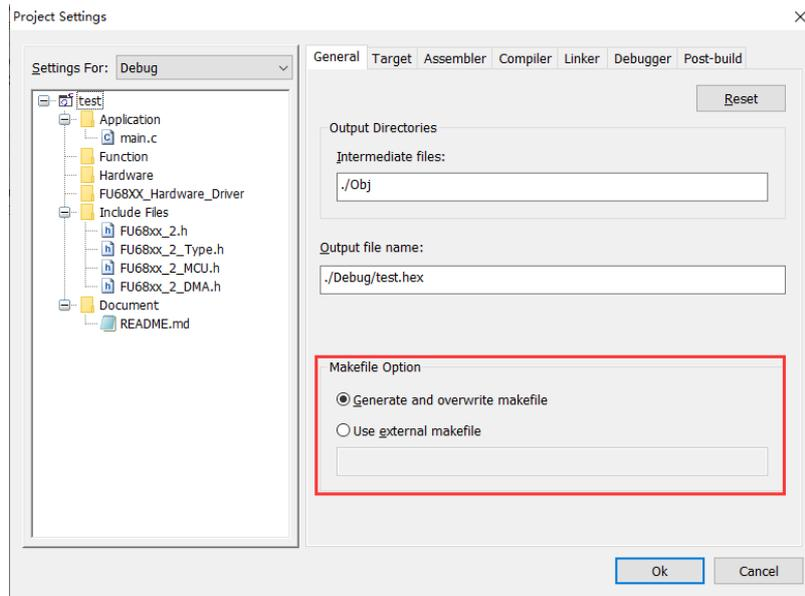

Figure 1-36
1. General: contains the directory and name of the output file and the selection of the makefile file. Among them, “Generate and overwrite makefile” automatically generates the makefile for the selected software; “Use external makefile” selects the makefile set by the programmer, as shown in Figure 1-36.